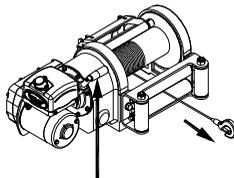

Fig7
- 3). Place the replacement wire rope through the fairlead opening, pass below the drum, and insert it into the hole on the drum core. (Fig.7)